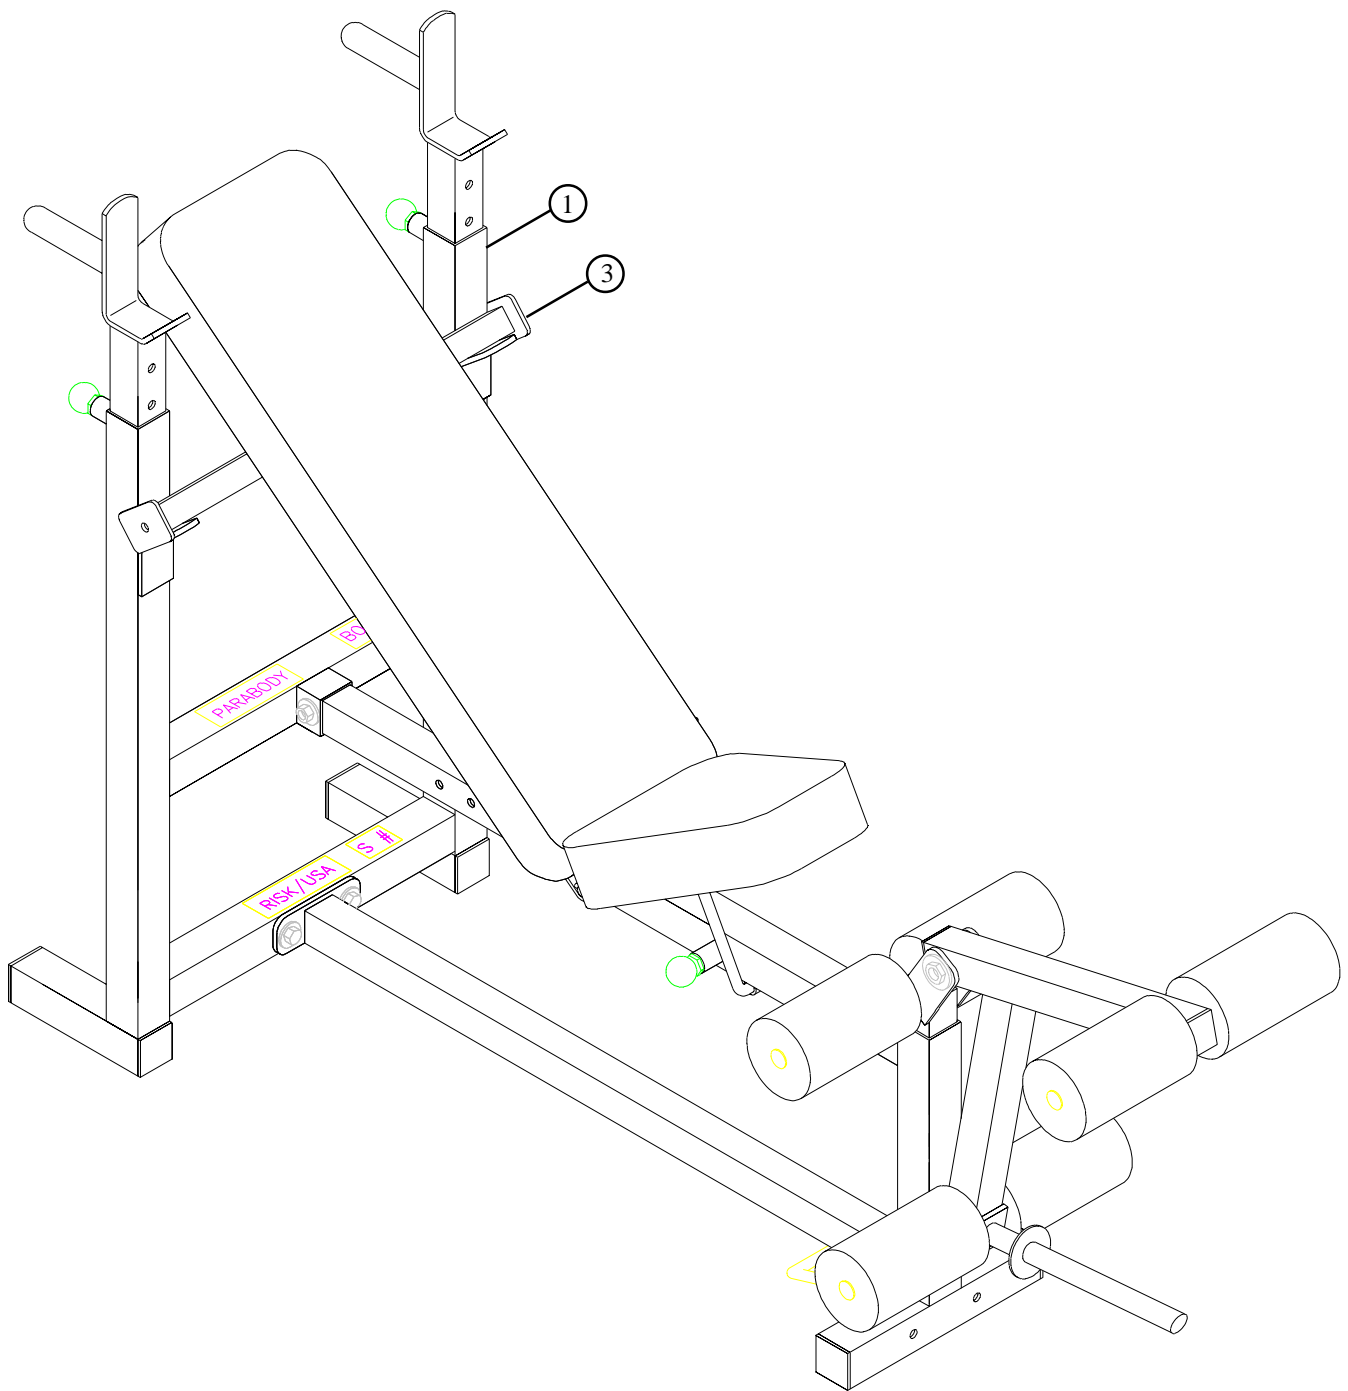

FIGURE 10
- Set the HEIGHT ADJUSTMENT BAR (3) across the UPRIGHT FRAME (1) as shown in FIGURE 10, for performing INCLINE, or MILITARY PRESSES. When performing DIPS, use the HEIGHT ADJUSTMENT BAR (3) to hold the BACK PAD forward as shown in the WORKOUT MANUAL.